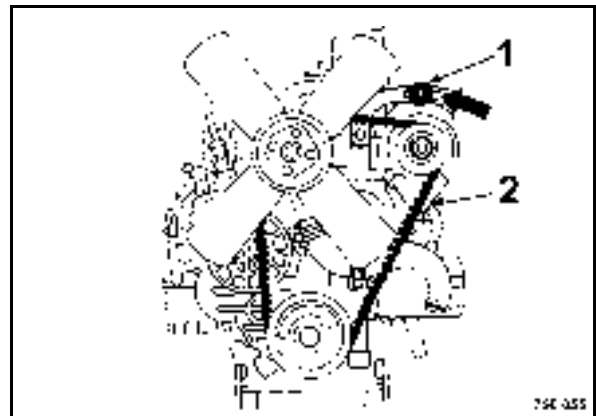

Fig. 105
- Slacken the fastening screws 1 and 2 (Fig. 105) slightly.